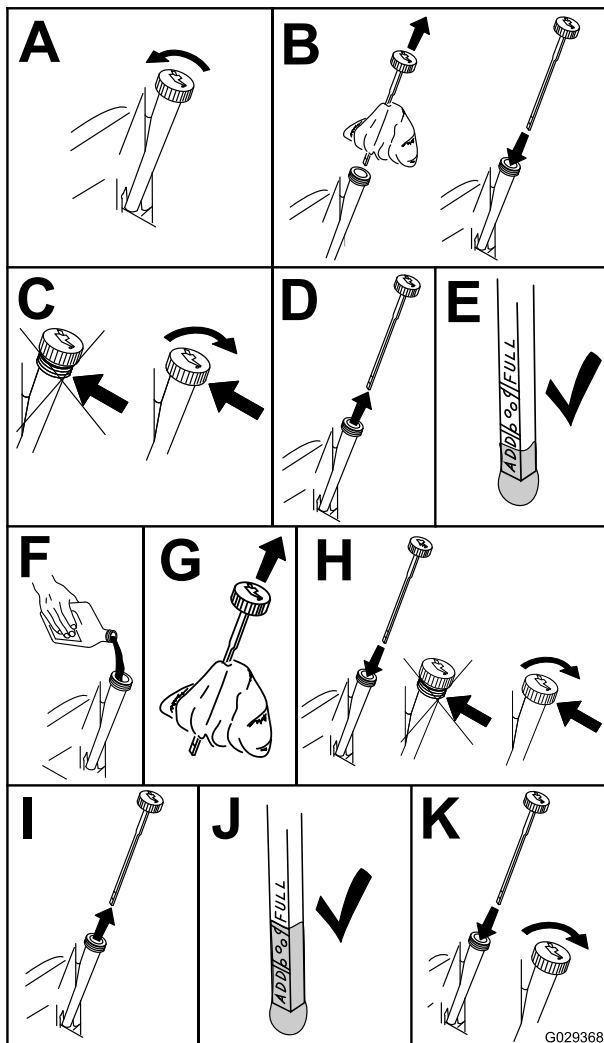

Figure 37
- To keep dirt, grass clippings, etc., out of the engine, clean the area around the oil-fill cap and dipstick before removing it (Figure 37).